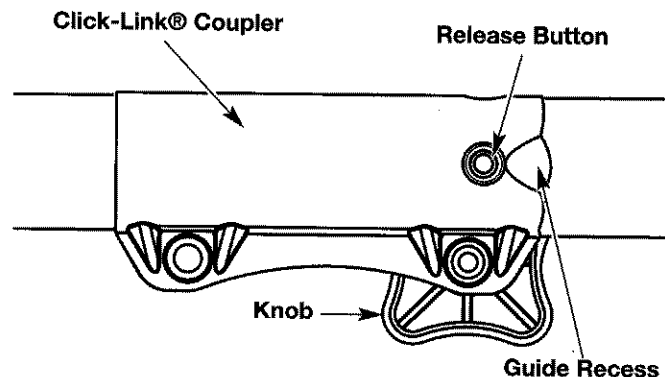

Fig. 10
1. Turn the knob counterclockwise to loosen (Fig. 10).
2. Press and hold the release button (Fig. 10).
NOTE: Aligning the release button with the guide recess will help installation (Fig. 10).